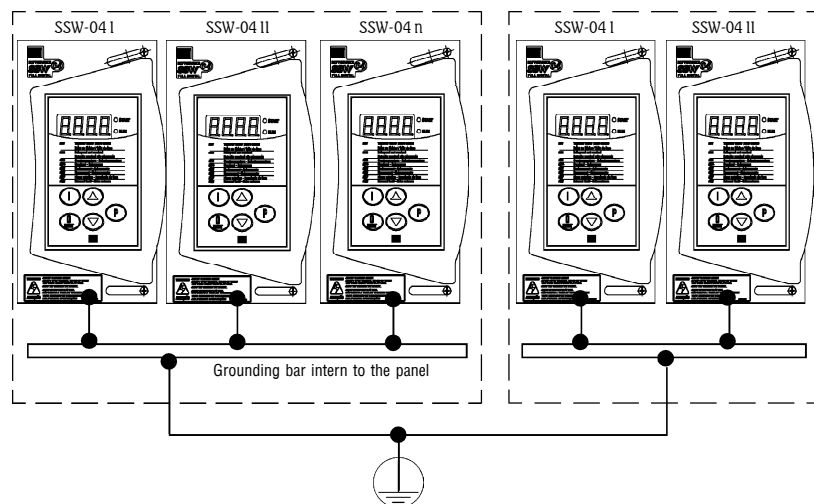

Figure 3.4 - Grounding connection for more than one Soft- Starter
- ❶ The line voltage must be compatible with the rated voltage of the Soft- Starter.
- ❷ For installation use the cable cross sections and the fuses recommended in Table 3.1, maximum torque as indicated in table 3.2
- ❸ Power factor correction capacitors must never be installed on the Soft- Starter output.
- ❹ The Soft- Starters must be grounded. For this purpose use a cable with a cross section as indicated in Table 3.1. Connect it to a specific grounding bar or to the general grounding point (resistance ≤ 10 ohms). Do not share the grounding wiring with other equipment which operate at high currents (for instance, high voltage motors, welding machines, etc.). If several Soft- Starters are used together, see Figure 3.4.